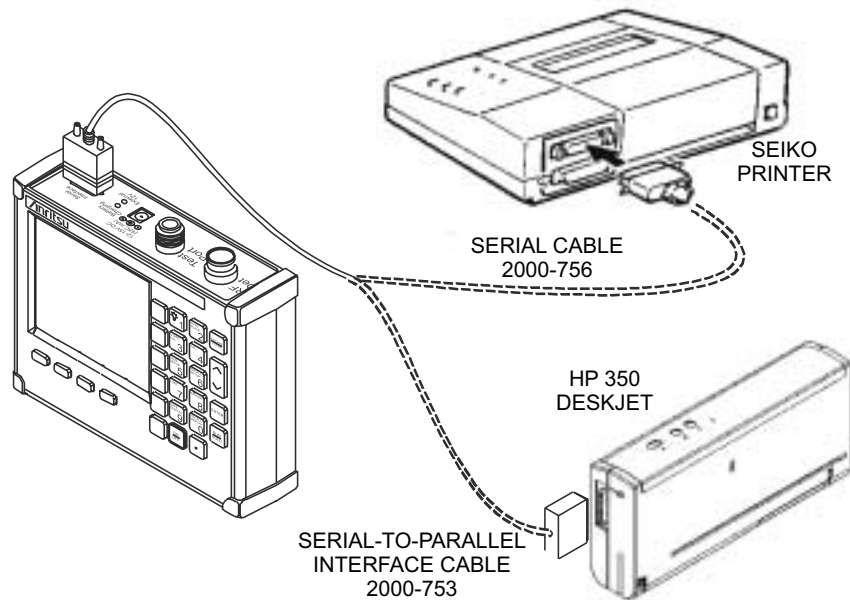

Figure 2-12. Printer Setup
Figure 2-12 shows a setup diagram for two types of printers. Refer to the printer manual for setup details.
**Step 1.** Connect the printer as shown in Figure 2-12.
- Step 1.** Connect the printer as shown in Figure 2-12.